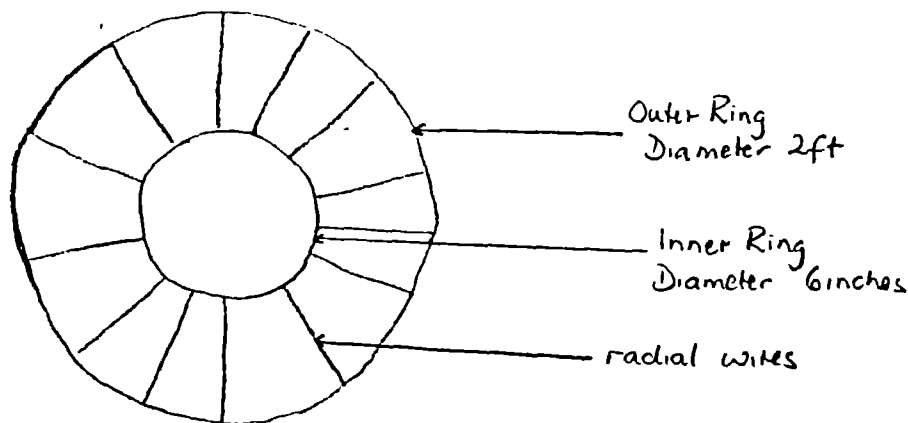

Fig. 3.
3. The reinforcement is formed as in Fig. 3. out of double inter-twined strands of binding wire.